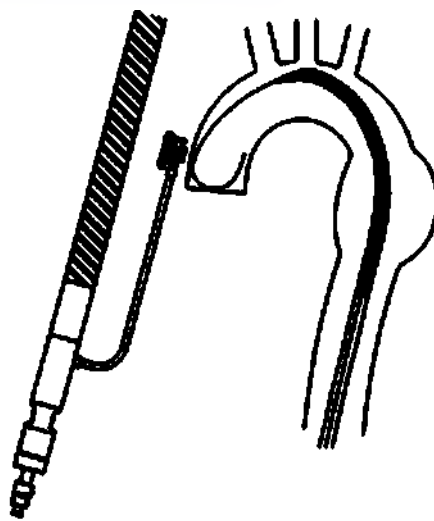

Fig. 6 Introduction of the delivery system
- ♦ Advance the delivery system to the aneurysms or dissection sites along the guidewire, and always maintain the hemostatic valve toward the left side of the patient (Fig. 6)